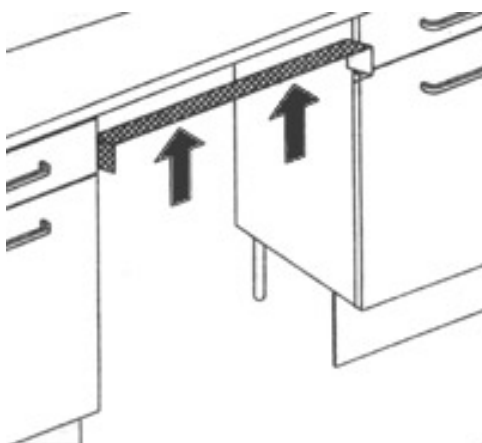

Fig. 10
3. Fit the steam guard to the underside of the worktop (see Fig. 10)